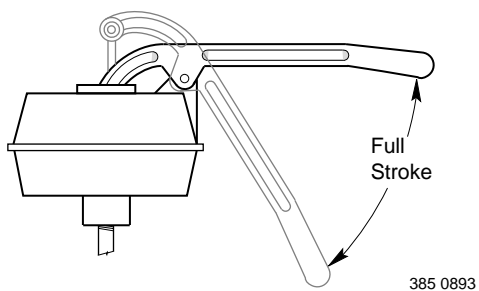

FIGURE 6A – Start of priming cycle, pumping air only
3. Work handle of Han-Dee primer up and down. Refer to performance chart at the top of page 2 to determine the approximate number of strokes required for your installation. To maximize primer performance, work handle at the start and finish of priming cycle as shown in Figures 6A and 6B, Page 4.